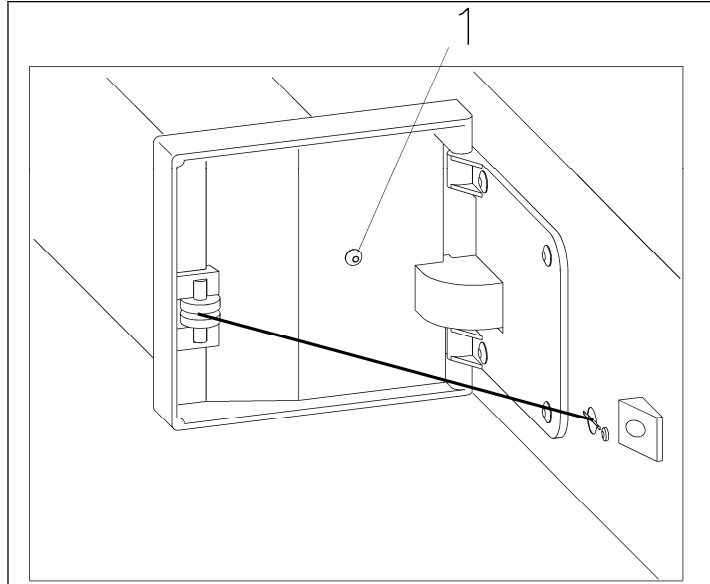

Figure 010-3: Main Electronic Cover
6. Remove the main electronic's cover (T20 screw) from the stand (Figure 010-3, Item 1).